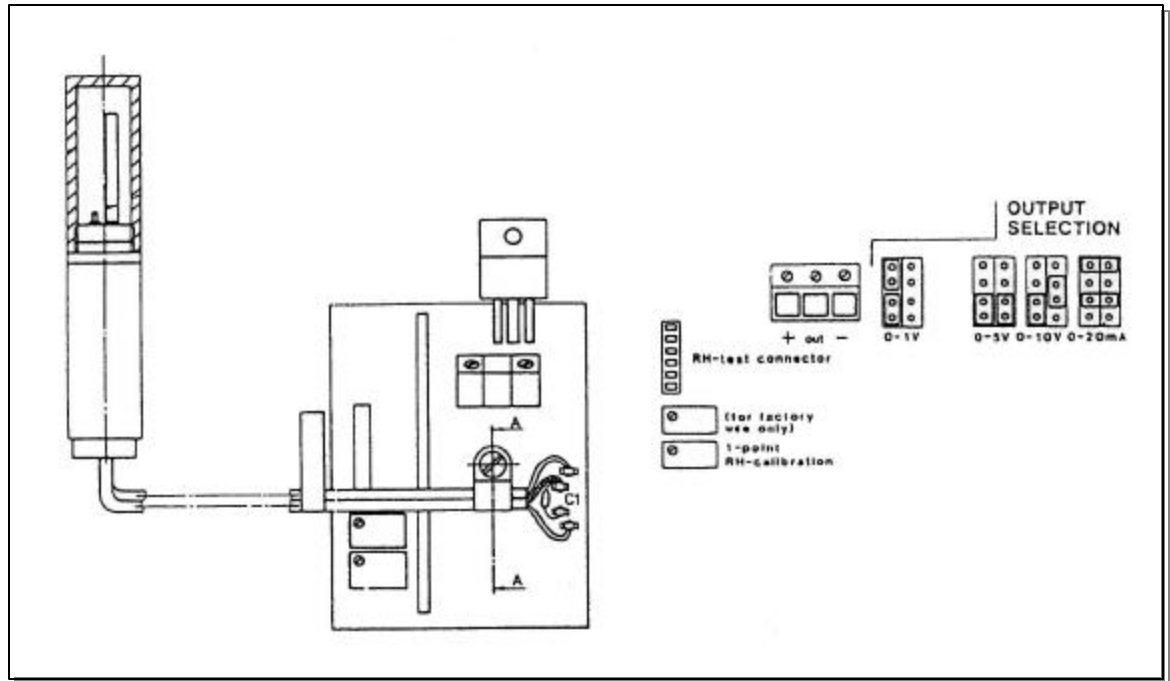

Figure 6.1.2-1 R.H. Sensor Calibration Adjustment Location
4. Read the temperature and relative humidity. Compare the reference unit reading with the level displayed on the previously calibrated Humidity Controller display. They should be within $\pm 2\%$ R.H. of each other. If not adjust the "1-point RH-calibration" control to obtain the correct reading as shown in Figure 6.1.2-1.